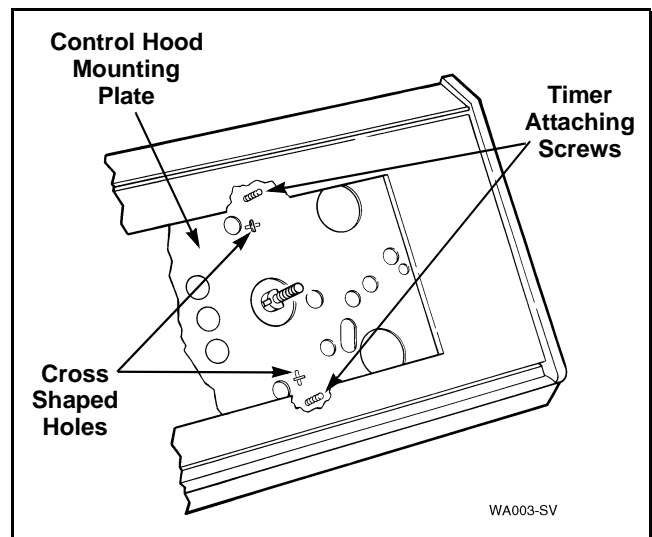

Figure 10
**NOTE:** When installing timer, be sure timer is installed correctly and is securely mounted to bracket on control hood. Refer to *Figure 10*.